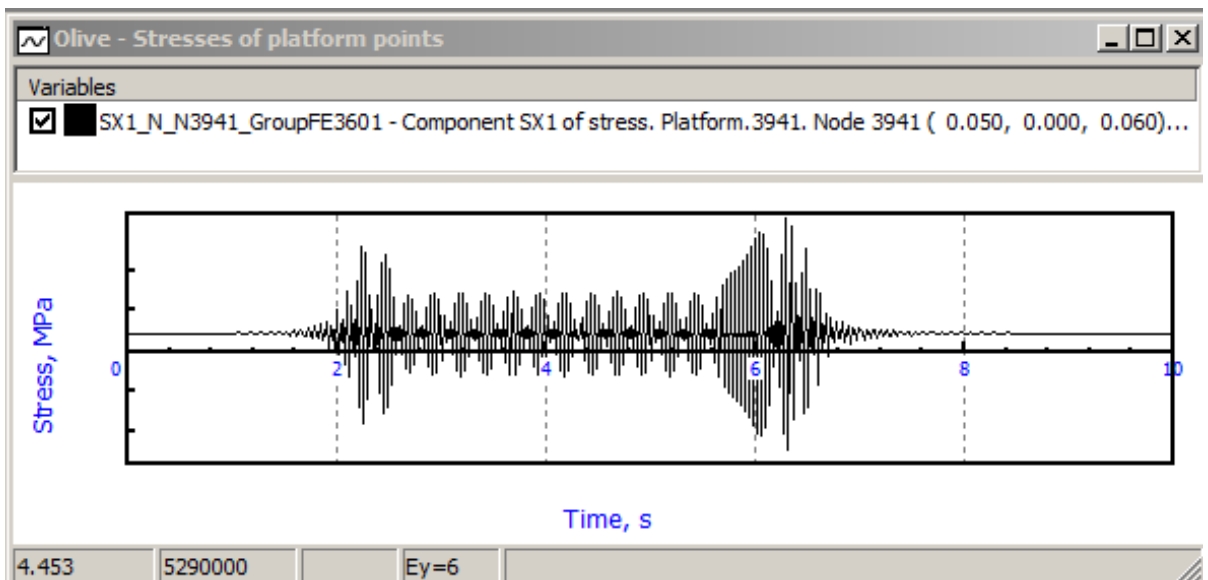

Figure 2.64.
11. Start the simulation process by the **Integration** button on the bottom part of the inspector. Figure 2.64 depicts some simulation results.